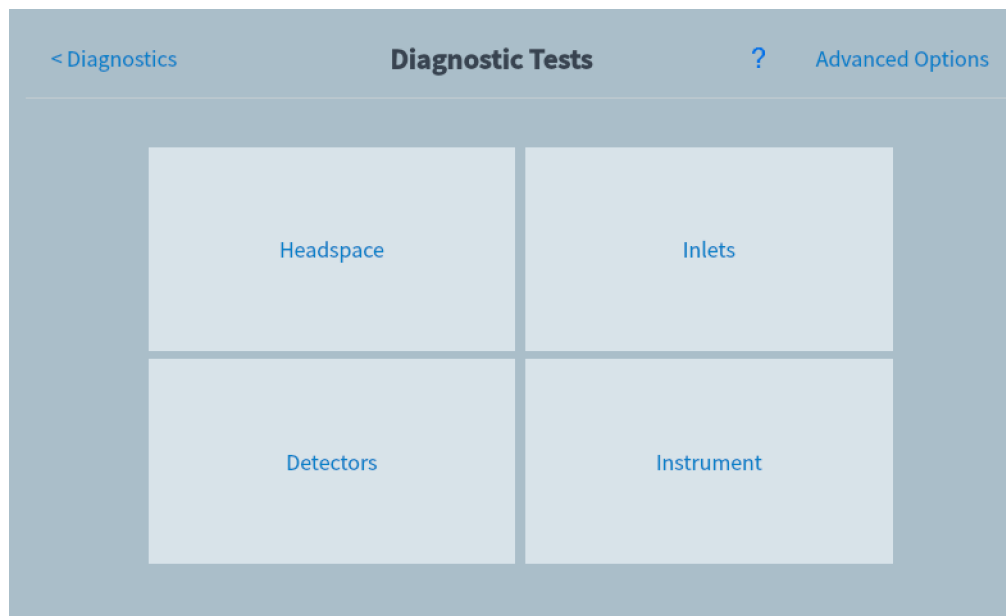

Figure 40. Diagnostic Tests page
- 2 Select **Diagnostic Tests**. The Diagnostic Tests page appears. See **Figure 40**.